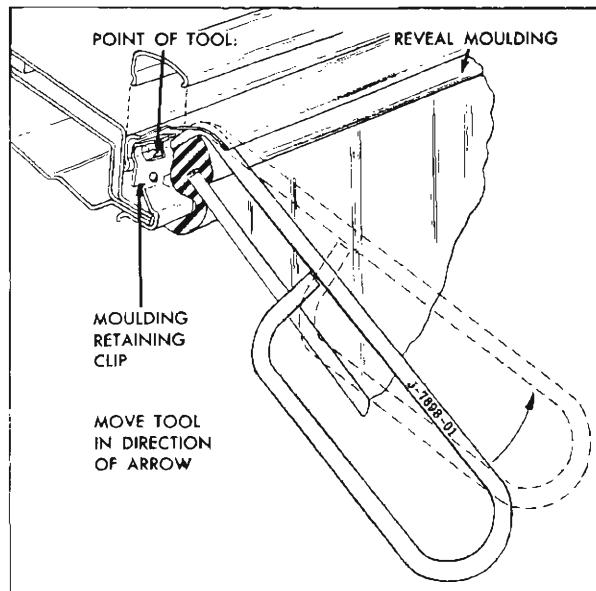

Fig. 2-5 Reveal Molding Removing Tool
6. On all styles except "B"-47 and all "67" styles tool J-7898-01 may be used to remove the side upper reveal moldings. When using reveal molding removing tool (J-7898-01) carefully lift up edge of molding sufficiently to engage point of tool between molding and molding clip as indicated in illustration. To disengage prongs of clip from molding, lift molding free of clip. Repeat this operation at each molding clip (Fig. 2-5).
8. On all styles except "67" styles, carefully remove the upper reveal molding with tool J-7898-01 (Fig. 2-5) or flat-bladed tool as required. On "67" styles remove screws at outer ends of molding; then, remove upper garnish molding to gain access to stud nuts. Remove nuts and moldings.